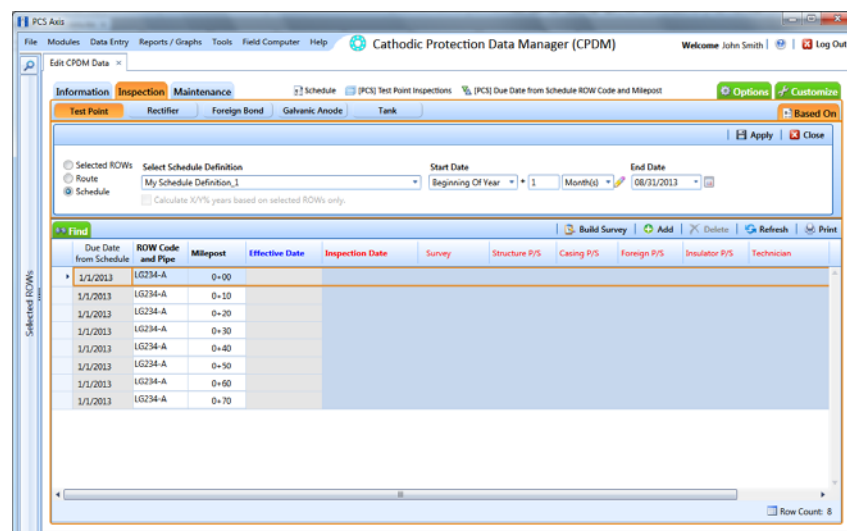

Figure 6-39. Based On Schedule
- 8 To set a schedule date range using dynamic start and end dates, follow these steps (Figure 6-39):